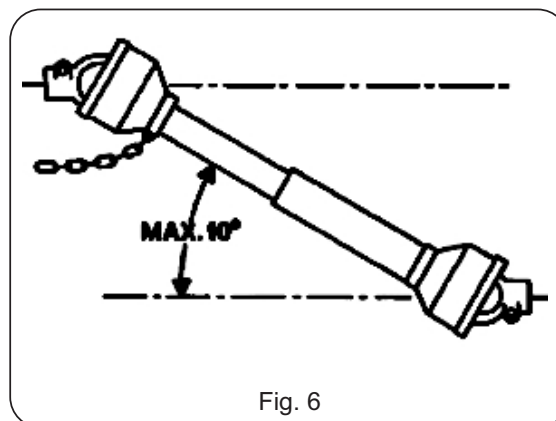

Fig. 6
- 40) Always disengage the pto when the propeller shaft is set at an excessively open angle (never beyond 10 degrees - Fig. 6) and when it is not in use.